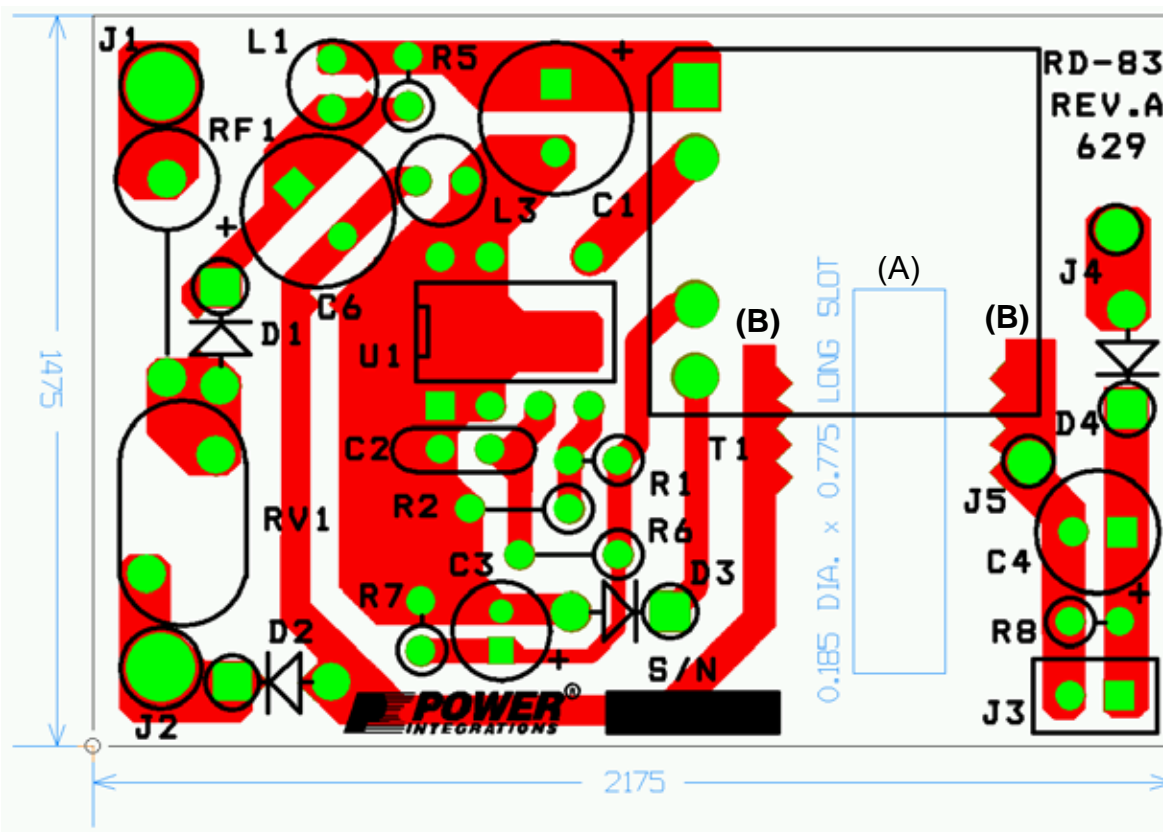

Figure 4 – RD83 Printed Circuit Layout (2.175" x 1.475" / 55.25 mm x 37.47 mm).
A 0.185 inch long, 4.7 mm wide slot was placed along the isolation barrier. Additionally, the primary and secondary traces are separated by 0.4 inches (10 mm). A spark gap was added across the isolation barrier (marked as points (B) in Figure 4), so that any arcing that might occur would take place at a designated point with a well defined path. On the primary side of the isolation barrier, the spark gap trace returns directly to C6, which keeps surge currents away from the low-voltage pins of U1. Two additional spark gaps were placed across L1 and L3, to prevent the breakdown of insulation on those parts. **Note:** During 10 kV common mode surge testing, no arcing occurred across any of the spark gaps.